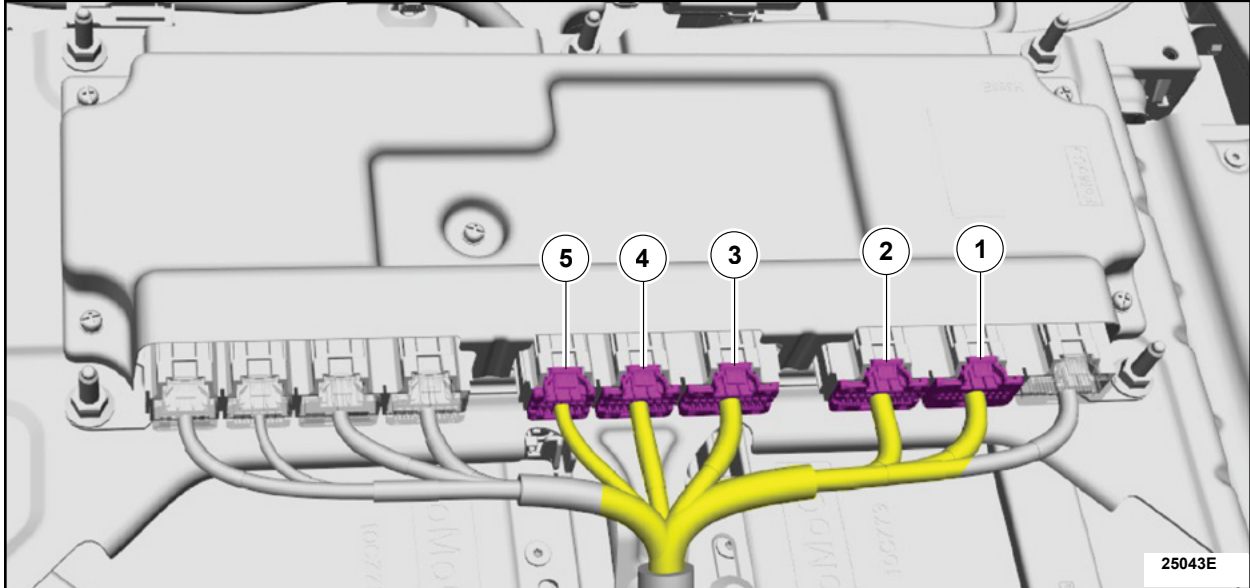

FIGURE 5
7. Disconnect the BECM electrical connectors in the sequence shown. See Figure 5.